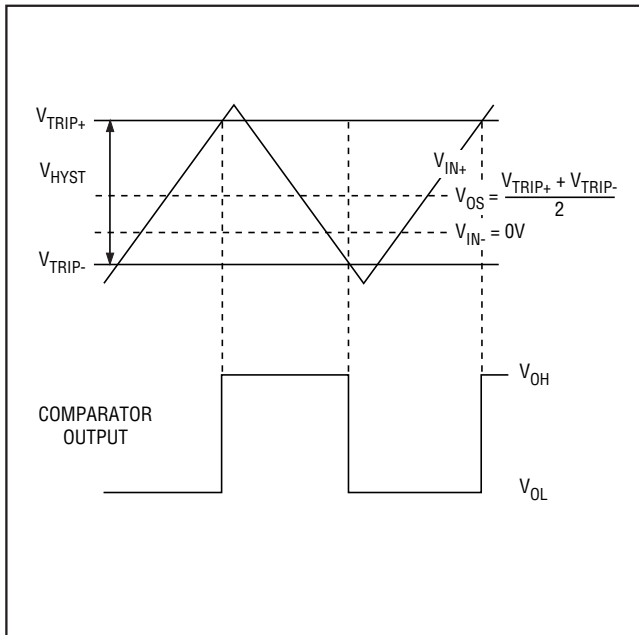

Figure 1. Input and Output Waveform, Noninverting Input Varied
- Note 2:** The input-referred trip points are the extremities of the differential input voltage required to make the comparator output change state. The difference between the upper and lower trip points is equal to the width of the input-referred hysteresis zone (see Figure 1).
- Note 3:** V_{OS} is defined as the center of the input-referred hysteresis zone (see Figure 1).
The hysteresis in a comparator creates two trip points: one for the rising input voltage and one for the falling input voltage (Figure 1). The difference between the trip points is the hysteresis. When the comparator's input voltages are equal, the hysteresis effectively causes one comparator input voltage to move quickly past the other, thus taking the input out of the region where
Figure 1 illustrates the case where IN- is fixed and IN+ is varied. If the inputs were reversed, the figure would look the same, except the output would be inverted.